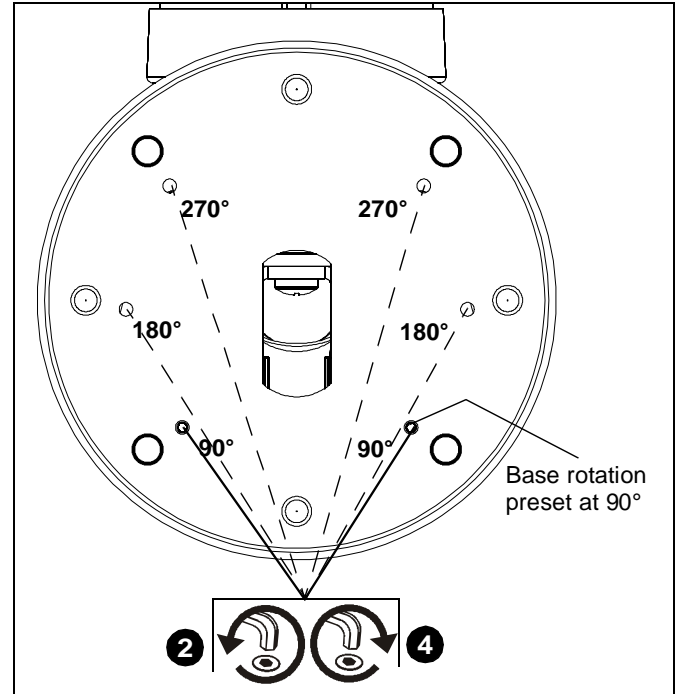

Figure 2
IMPORTANT ! : The STS1 is shipped with the display rotation set at the minimum of 90° . Base rotation may be adjusted to 90° , 180° or 270° and locked if installation location requires it. (See Figure 2)
2. Remove and save setscrews from two 90° holes in base using $3/32$ " hex key (K). (See Figure 2)
4. Place setscrews into the appropriate holes (180° or 270°) and tighten to secure rotation amount. (See Figure 2)